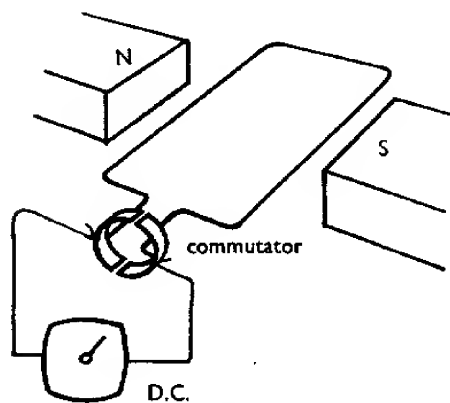
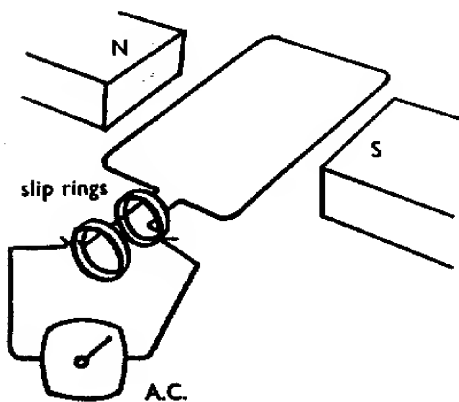

Fig. 333
Fig. 334
Dynamos are of two main types: D.C. generators (Fig. 333) and A.C. generators or alternators (Fig. 334). In the case of the alternator, the current coming from the coil is fed to two brass rings on which the brushes press. The rings are called slip rings. We will see later in the course that there are many advantages to be gained by having electric current the direction of which is continually being reversed. *What is the frequency (number of to and fro current pulses per second) of the mains supply in Britain? (9)*